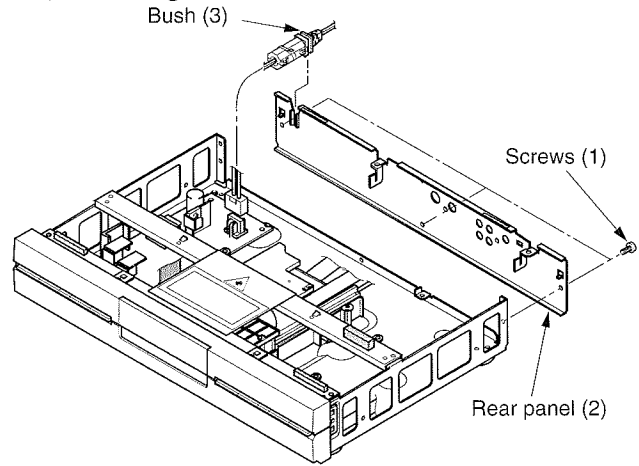

Fig. 2-6
1. Remove the upper shield plate, main PC board and lower shield plate. (Refer to items 1-1-2 and 1-2-1.)
2. Remove the color DIF PC board (Refer to item 1-2-2).
3. Remove the power supply bush (3) and remove the three screws (1). Then, remove the rear panel (2). (Refer to Fig. 2-6)